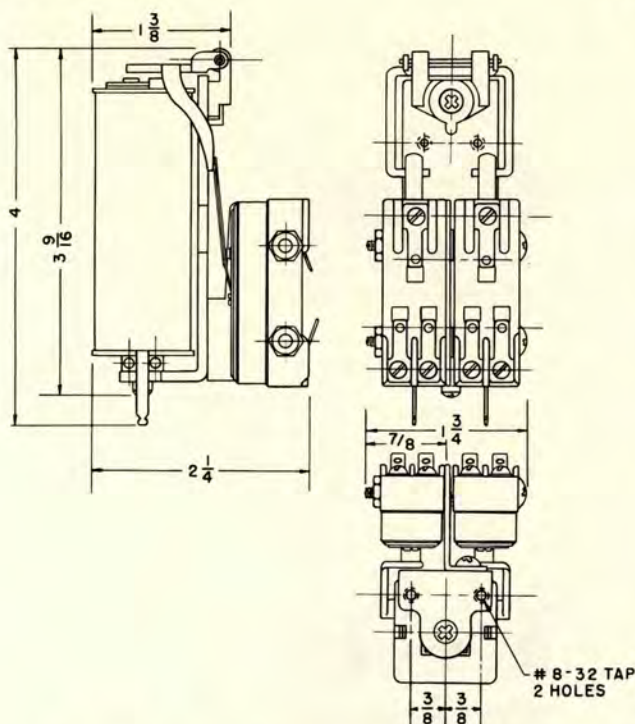

Figure 6-1. A-C Control Relay (K104 to K111)
(1) Turn the MAIN switch OFF and remove the four external connections to the oscilloscope (the AC INPUT and VIDEO at the rear of the scope, and the EXTERNAL TRIGGER and VERTICAL DIRECT inputs at the front of the scope).
(2) Turn the four fasteners which hold the rectangular frame around the scope on the front of the transmitter. Remove the frame.
(3) Slide the oscilloscope forward and remove it to a test bench.
(4) Remove chassis retaining screws at the rear, on the back and bottom, of the oscilloscope. (See figure 6-1 of the appended oscilloscope instruction book.)
(5) Slide the cabinet off the oscilloscope chassis, being careful not to touch any uninsulated portions of the scope.